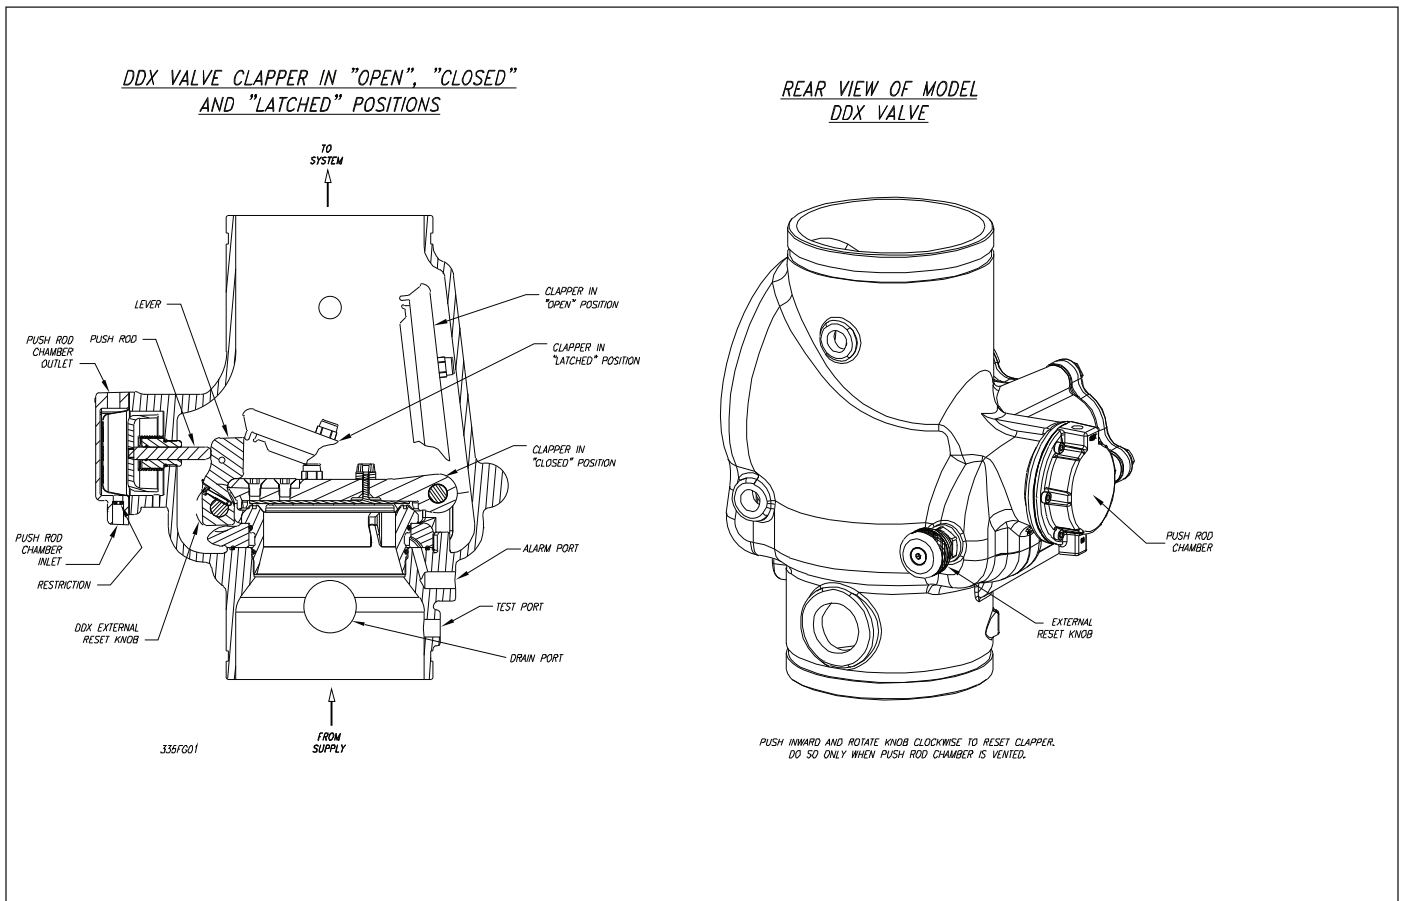

Fig. 1
The Reliable Model DDX-LP Dry Pipe Valve is a hydraulically operated, differential latching clapper-type valve (see Fig 1.) designed for use as a primary control valve in a low pressure dry pipe valve system. The trim set used with the Model DDX-LP Dry Pipe Valve contains the Reliable Model LP Dry Valve Actuator releasing device. This Actuator allows the system's air or nitrogen pressure requirement to be considerably less than the available water supply pressure (see Table A). The following benefits are a direct result of lower air pressure:
5. System maintenance is simplified since priming water is not required and the Dry Pipe Valve can be reset externally without cover removal. This is accomplished by pushing in and turning the external reset knob at the rear of the Dry Pipe Valve (see Fig.1). This feature provides a significant system-restoration time advantage.
The Reliable Model DDX-LP Dry Pipe Valve is shown in both closed and open positions in Fig. 1. In the closed position, the supply pressure acts on the underside of the clapper and also on the pushrod through the pushrod chamber's inlet restriction. The resultant force due to the supply pressure acting on the push rod is multiplied by the mechanical advantage of the lever and is more than sufficient to hold the clapper closed against normal supply pressure surges.
After system shutdown, resetting the Model DDX-LP Dry Pipe Valve is quite simple. Doing so only requires pushing in and turning the reset knob at the rear of the valve (see Fig. 1). The external reset feature of the Model DDX-LP Dry Pipe Valve provides a means for simple, economical system testing, which is one essential facet of a good maintenance program. The external reset feature does not, however, eliminate another important facet of good maintenance, namely, periodic cleaning and inspection of the internal valve parts.